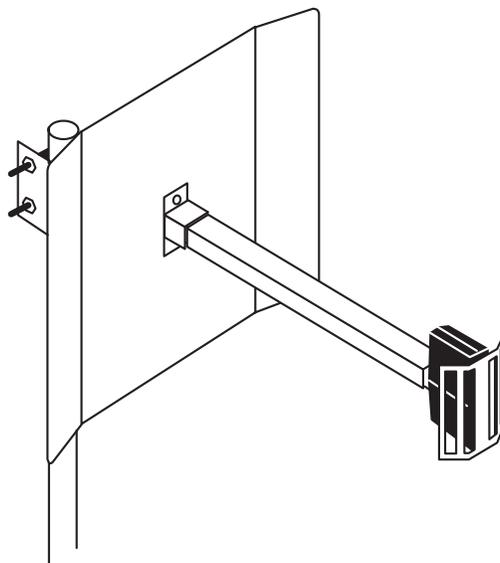

Figure 3-2. Vertical Polarity.
2. Determine the polarity of the antenna. See **Figures 3-2** and **3-3**.